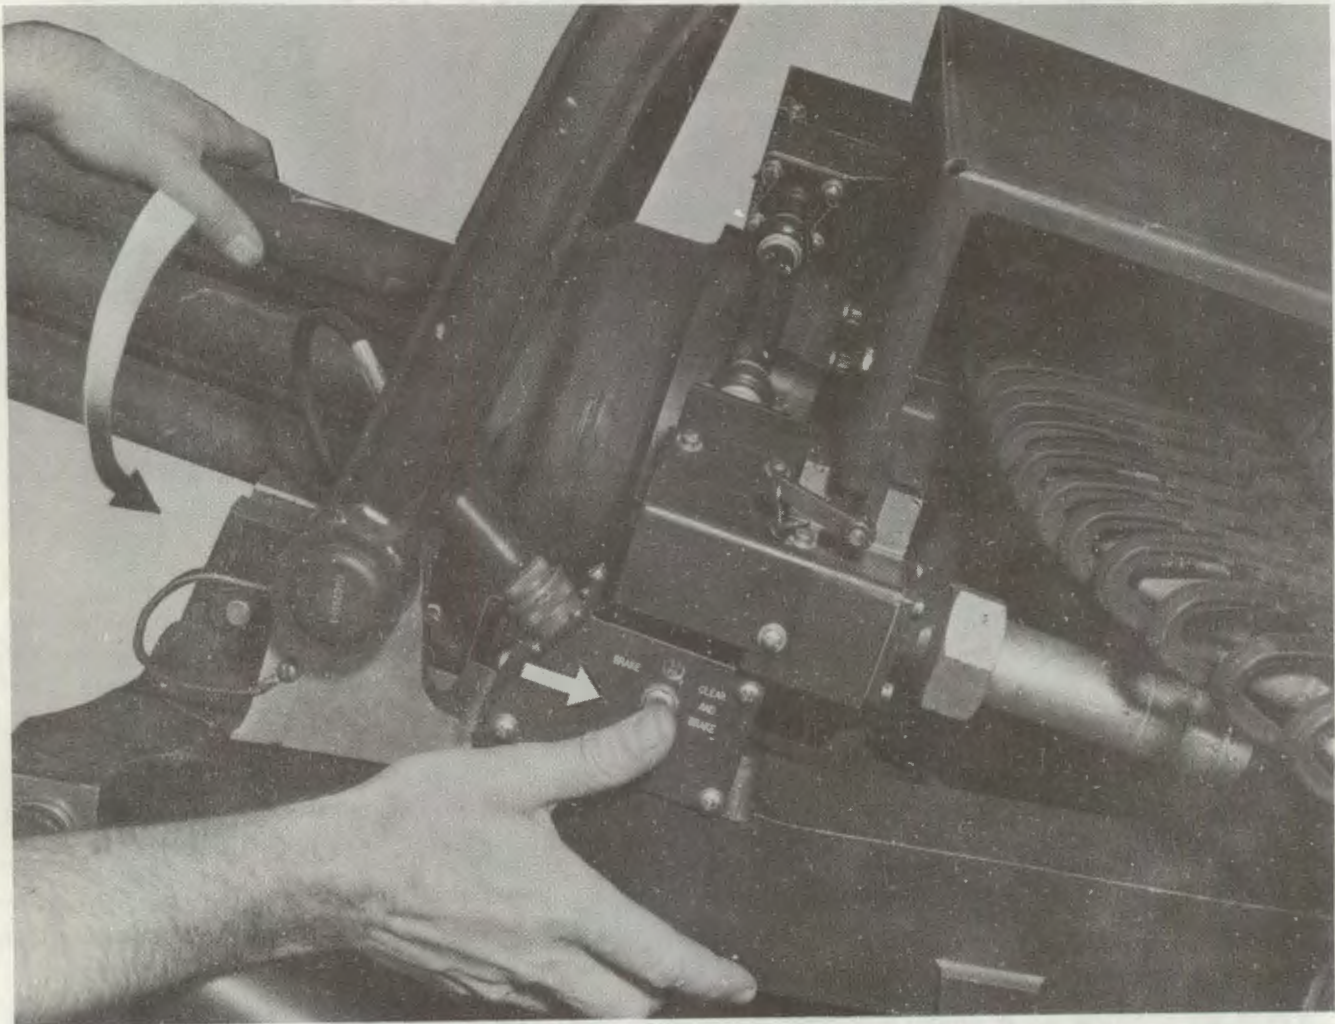

Figure 3-12. BRAKE/CLEAR AND BRAKE switch.
b. *BRAKE/CLEAR AND BRAKE Switch (fig. 3-12).* This three-position toggle switch is spring-